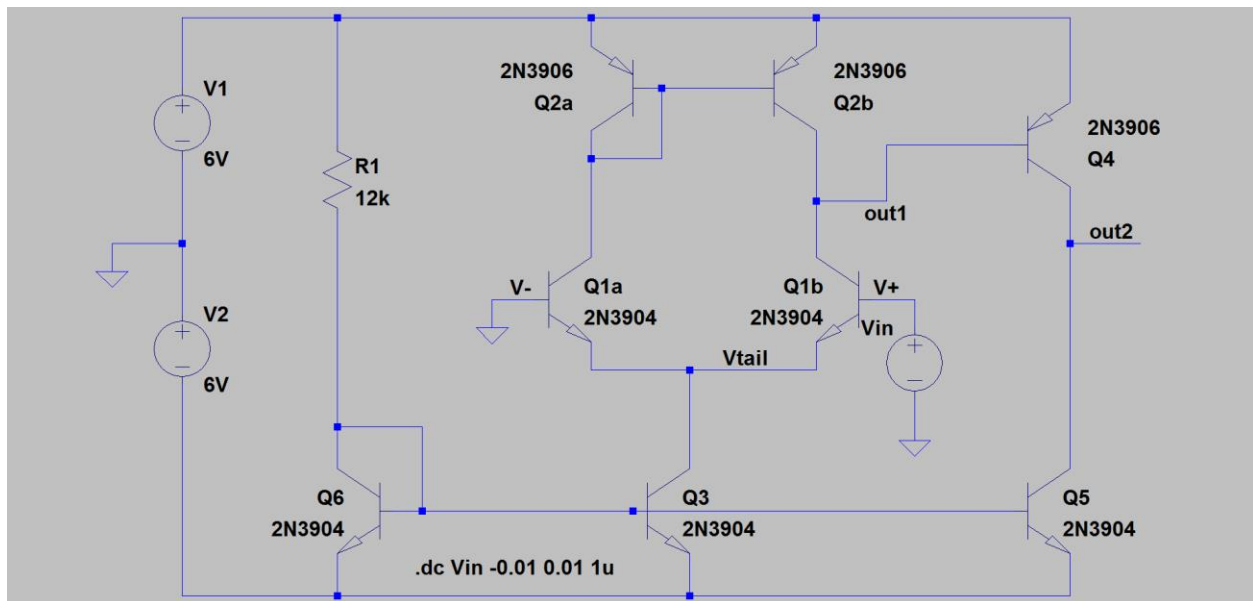

Figure 1: Lab 2 Op-Amp [File: BJTopamp.asc]
2. Use LTspice on the file BJTopamp.asc to run a DC sweep on the amplifier in Figure 1.
1. Build the circuit in *Figure 1*.